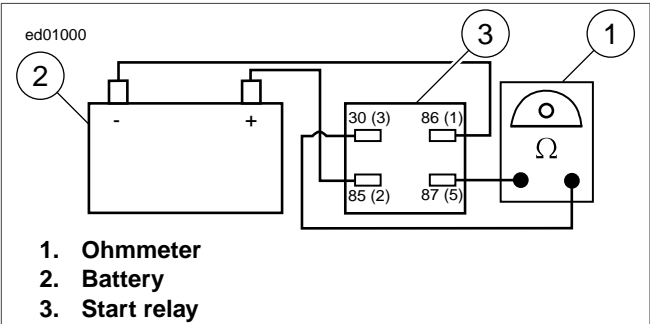
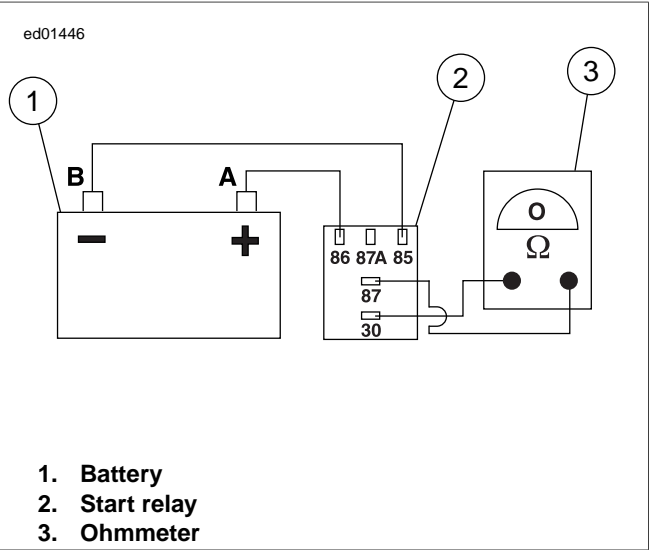

Figure 1-33. Four Terminal Relay Test
Figure 1-34. Five Terminal Relay Test
2. See Figure 1-33 and Figure 1-34 to energize the relay. Connect relay terminal 85 to the negative battery terminal and relay terminal 86 to the positive battery terminal.